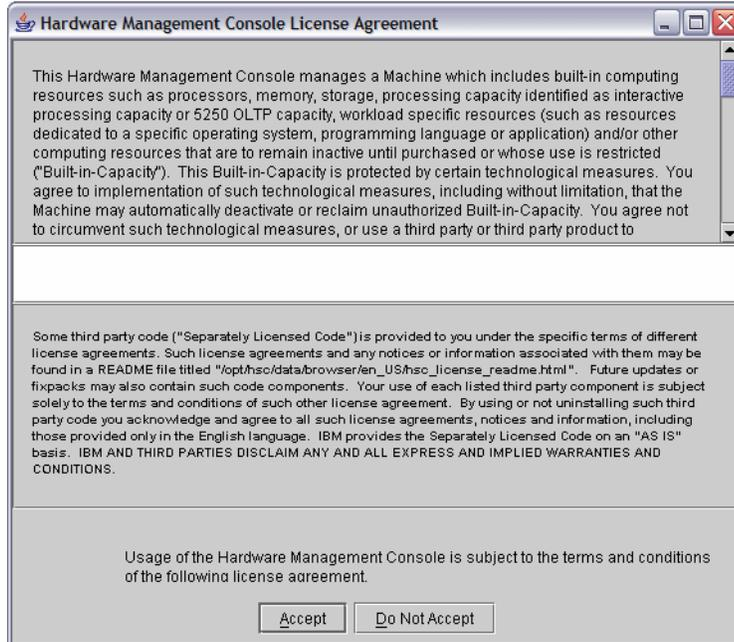

Figure 14-40 HMC License Agreement screen - update release
10. The Hardware Management Console License Agreement panel is then shown (Figure 14-40).